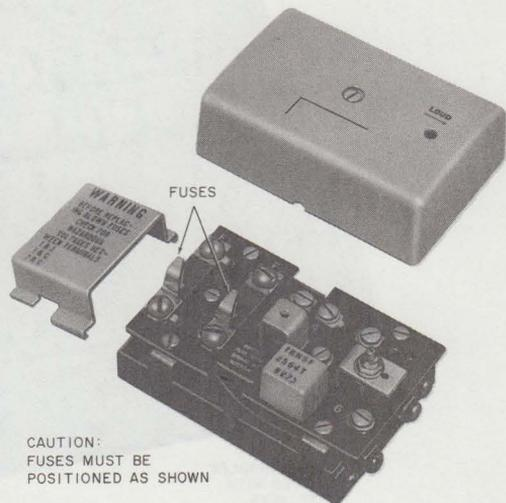

Fig. 9—33A Voice Coupler
2.12 The 33A voice coupler (Fig. 9) is an interconnecting unit which provides a point of connection for a customer-provided music source used with music-on-hold and background music. It is wall-mounted externally from the KSU. A potentiometer (with screwdriver adjustment slot) controls the level of the background music. The unit contains two fuses for protection against hazardous voltages from the CP music source.